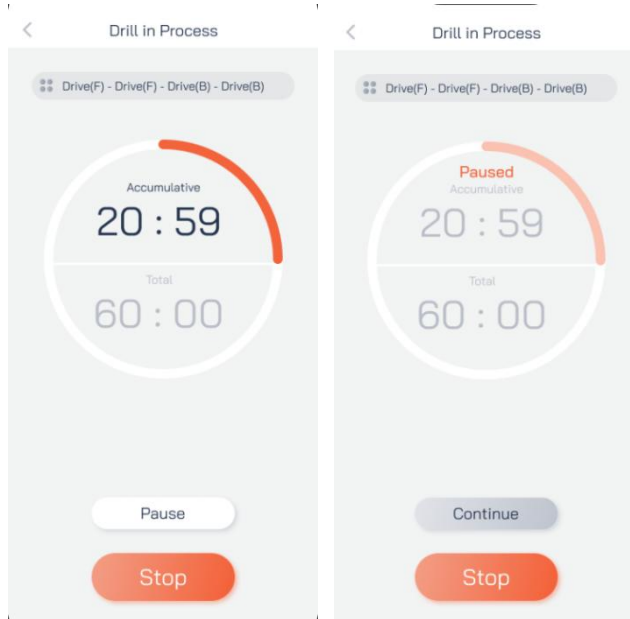

Figure 3-10
3.4.4 In Drill in Process interface, users can view the target training duration and the accumulated training time. They can also pause, continue, or stop the training (Figure 3-10).